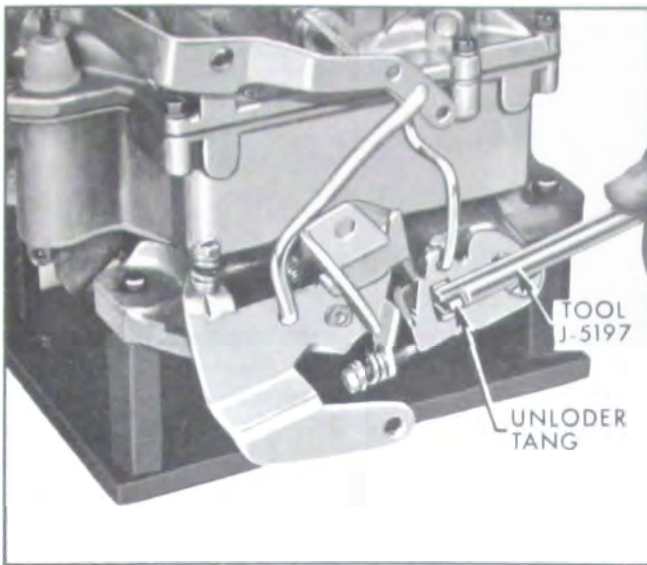

Figure 3-55—Adjusting Choke Unloader
4. If choke valve clearance is not correct, bend unloader tang as required to obtain specified clearance, using Tool J-5197. See Figure 3-55.